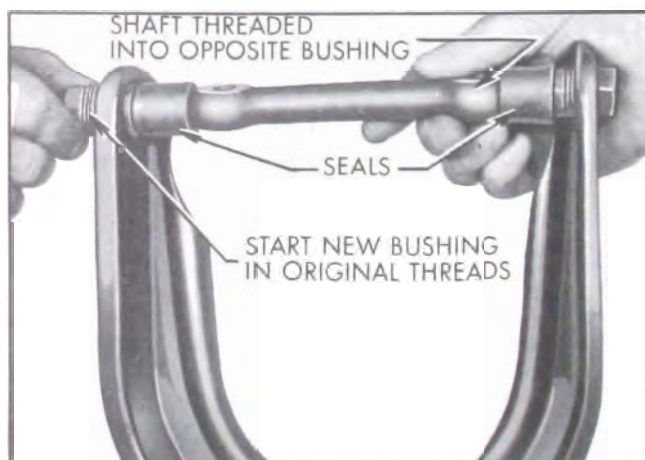

Figure 7-12—Upper Control Arm Bushing Replacement
3. Start second bushing into original threads of arm with shaft threaded into opposite bushing. See Figure 7-12.